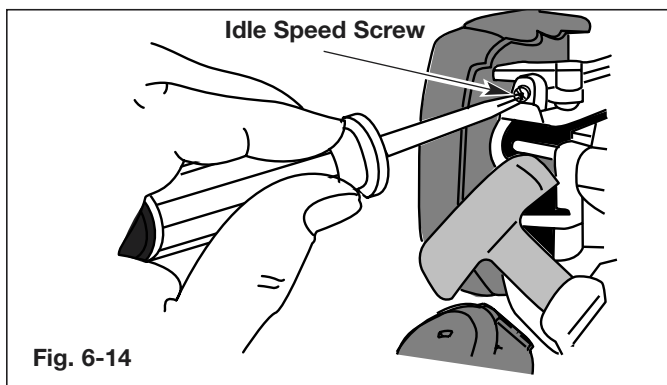

Fig. 6-14
The idle speed of the engine is adjustable by the screw next to the air filter cover (Fig 6-14).
2. Release the throttle trigger and let the engine idle. If the engine stops, insert a small phillips or flat blade screwdriver into the screw next to the air filter cover (Fig. 6-14). Turn the idle speed screw in, clockwise, 1/8 of a turn at a time (as needed) until the engine idles smoothly.